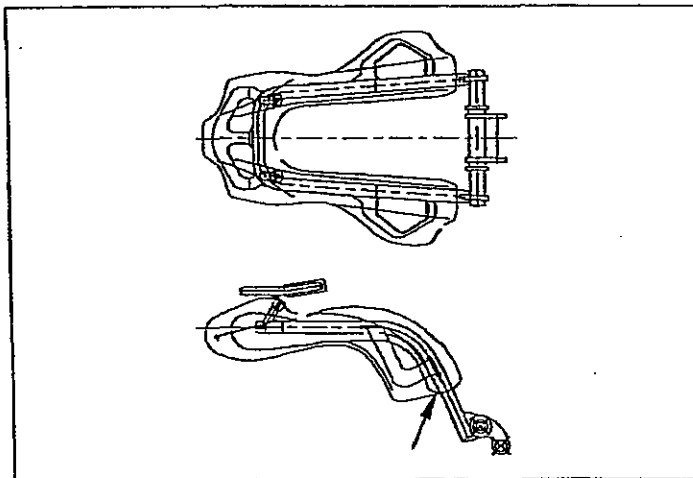

figure 4: Shoulder restraint
- 3 Visually check the shoulder restraint (figure 4) for cracks. Pay special attention to possible rust formations (figure 4/arrows) at the transition area between the PUR part and steel part. (For your information, at this location no cracks were found).